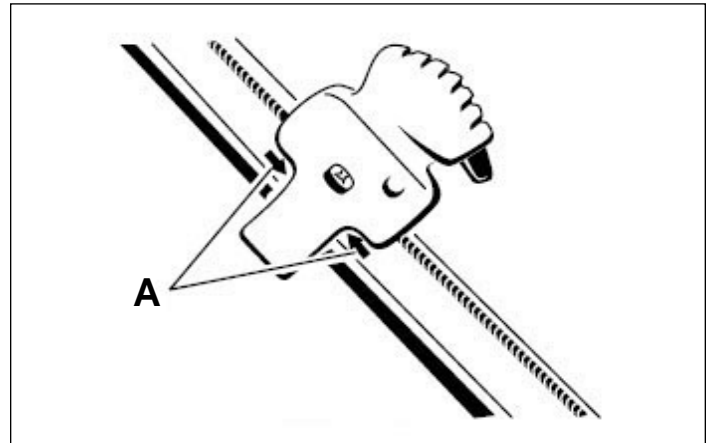

Fig. 025
2. Position the Quick Shoot control between the two arrows located on the right hand side of the upper handle (Fig. 025).